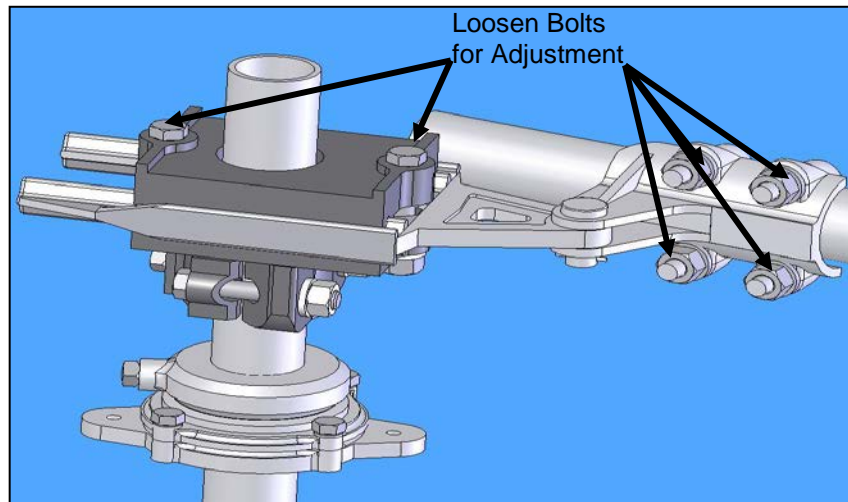

Figure 10: Adjustable Arm Assembly
- 3.2.4.1.4. **Figure 10.**
3.2.4.2.4. **Figure 10.**